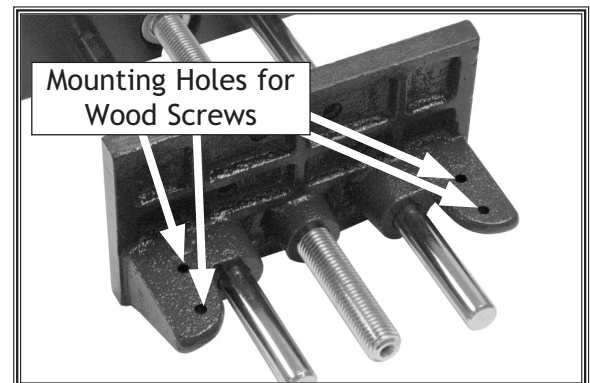

Figure 3. Mounting hole locations.
2. Use a pencil to mark the workbench through the four vise mounting holes (Figure 3) so you know where to drill pilot holes in the workbench.